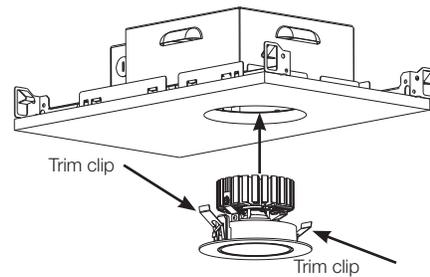

Figure 3
- a. Remove the wing nut(s) on the LED controller (driver) support bracket (**Figure 3**).